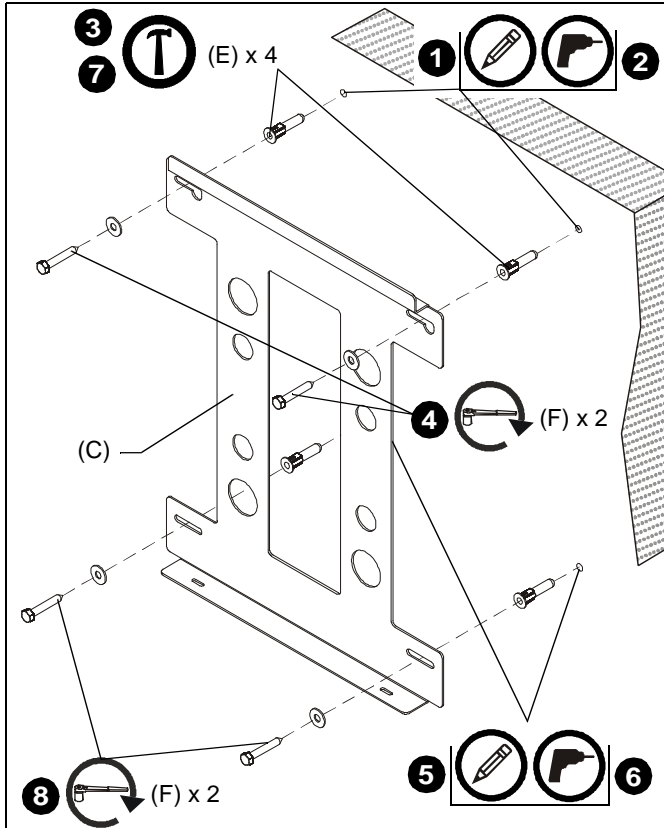

Figure 3
1. Using the mounting plate (C) as a template, mark the wall at the top mounting slots. (See Figure 3)
2. Drill one 5/16" pilot hole at both marks made in Step 1. (See Figure 3)
3. Install an anchor (E) into each pilot hole using a hammer, making sure that the anchor is flush with the wall.
5. Mark the attachment points for the lower mounting slots. (See Figure 3)
6. Drill one pilot hole at each marking for lower mounting holes. (See Figure 3)
7. Install an anchor (E) into each pilot hole using a hammer.
8. Use two 5/16 x 2-1/2" lag bolts (F) and two 5/16" flat washers (D) to attach the mounting plate (C) to the wall through the lower mounting holes. (See Figure 3)